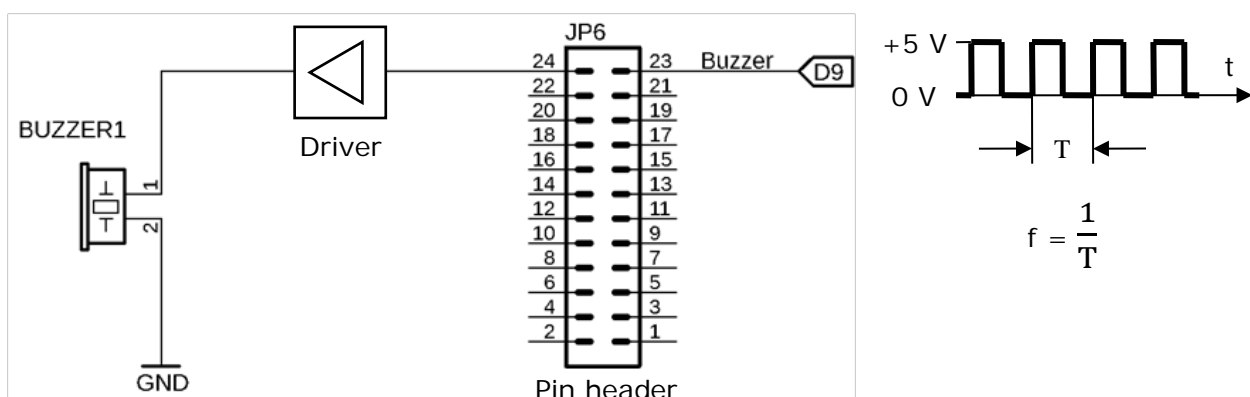

Figure 9: The wiring of *Buzzer1*
The upper left part of Figure 1 shows *Buzzer1* (arrow (23) in Figure 1), which allows the user to emit tones of different frequencies. Its basic circuitry is shown in Figure 9.
Buzzer1 can be connected to the GPIO D9 of the microcontroller on the MCCAB Training Board via a jumper on the position "Buzzer" of pin header JP6 (arrow (29) in Figure 1) (see Figure 9, Figure 4 and arrow (2) in Figure 1). The jumper can be removed if the GPIO D9 is needed in a program for other purposes.
To generate tones, the user must generate a signal in his program that changes with the desired tone frequency at output D9 of the microcontroller (sketched on the right in Figure 9). This rapid sequence of HIGH and LOW levels applies a rectangular AC voltage to *Buzzer1*,